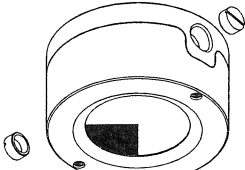

Fig1
- 1) Open the enclosure cover and conduit hole cap (Fig. 1).
- 1) Open the enclosure cover and conduit hole cap (Fig. 1)